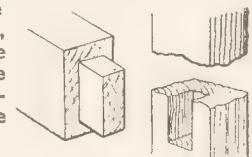
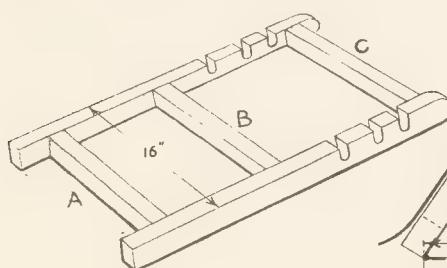
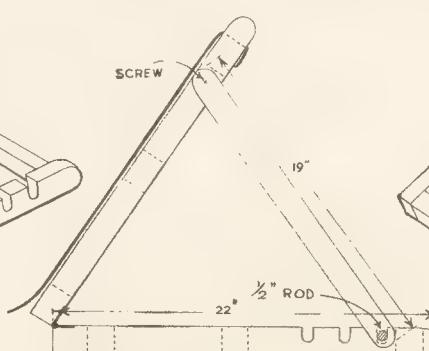

Fig. 4—The tenon joint
Fig. 2—The frame on the ground
Fig. 3—Side view showing adjustable back and slots
The serviceable wood to use would be American Whitewood, beech or birch, all both close grained and hard of surface. The ground frame can first be taken in hand, and the detail Fig. 2 gives a good idea as to its form and construction. The side view, Fig. 3, of the Rest shows this frame in position with the back rest and support frame in place.
The method of making the stub tenon is shown in Fig. 4, the ends of the cross rails being shouldered and with the tenon running half way through the long rails. The cross rail (A) in Fig. 2 should stand 2ins. in from the ends of the long rails, while rail (B) should be 6ins. from (A). The end rail (C) should be at least 1in. away from the rounded ends of the side rails.
Recesses into which the round rod of the support frame must rest, are made as shown in Fig. 3. Each recess is ½in. deep with rounded end and should be
The back frame to which the canvas covering is later attached, is shown in Fig. 4. This frame is exactly the same width as the ground frame, viz., 16ins. full width with a space of 13ins. in between rails. Note the positions of the three cross rails in this frame. The middle rail is 9½ins. up from the square ends of the side rails. The cross rails are 2ins. by 1½ins. in section, while the side rails are 1½ins. square, and all stub tenoned and mortised together just like the ground frame. Take off all sharp edges and corners of all the rails with glasspaper.
Both frames having been completed, the next job is to hinge them together. A pair of 1½in. brass hinges should be strongly attached to both frames in the manner shown in the side view Fig. 3. The flaps of the hinges are cut in or recessed so they lie flush with the surface of the rails.